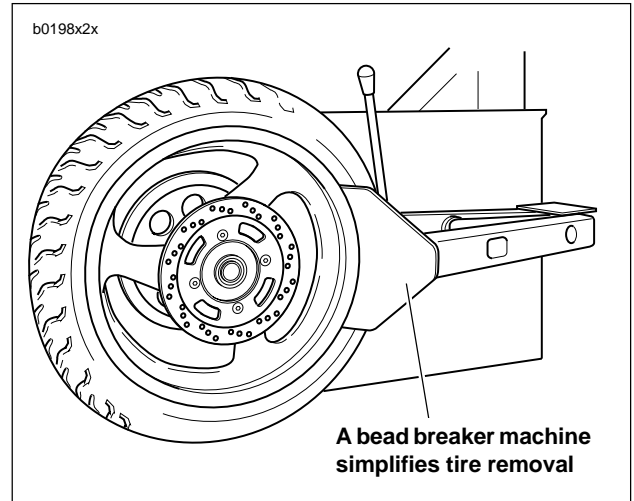

Figure 2-14. Loosening Beads from Rim Flange
3. See Figure 2-14. Loosen both tire beads from rim flange.